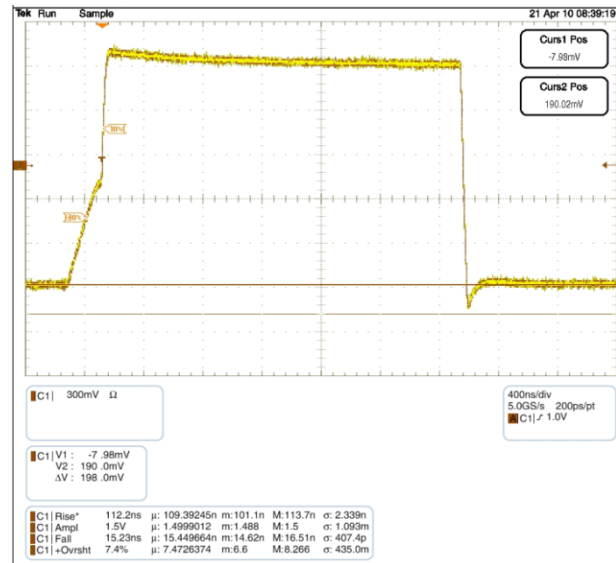

Figure 5. Waveform C: 600 pF, Total  $R_{PU}$ : 2.2 k $\Omega$
the Npassgates act as a low-resistive short between both ports until either of the port's  $V_{CC}/2$  thresholds are reached. After the RC time constant has reached the  $V_{CC}/2$  threshold of either port, the port's edge detector triggers both dynamic drivers to drive their respective ports in the LOW-to-HIGH (LH) direction, accelerating the rising edge. The resulting rise time resembles the scope shot in Figure 5. Effectively, two distinct slew rates appear in rise time. The first slew rate (slower) is the RC time constant of the bus. The second slew rate (much faster) is the dynamic driver accelerating the edge.